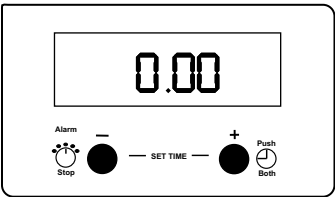
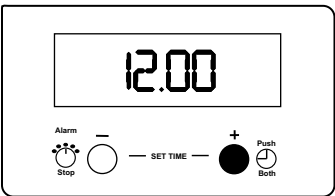

Fig. 2.
Fig. 3.
Press buttons (1) and (2) together. Release buttons, 0.00 will appear in the display as Fig. 2. **Within 5 seconds** press button (2), 12.00 will show in the display as Fig. 3.